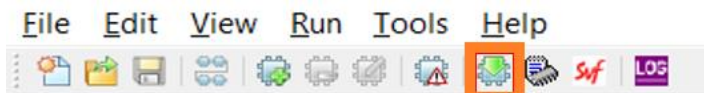

Figure 5.16. Programmer Menu Bar
6. Click the **Programming** button from the menu bar shown in Figure 5.16 to start programming.